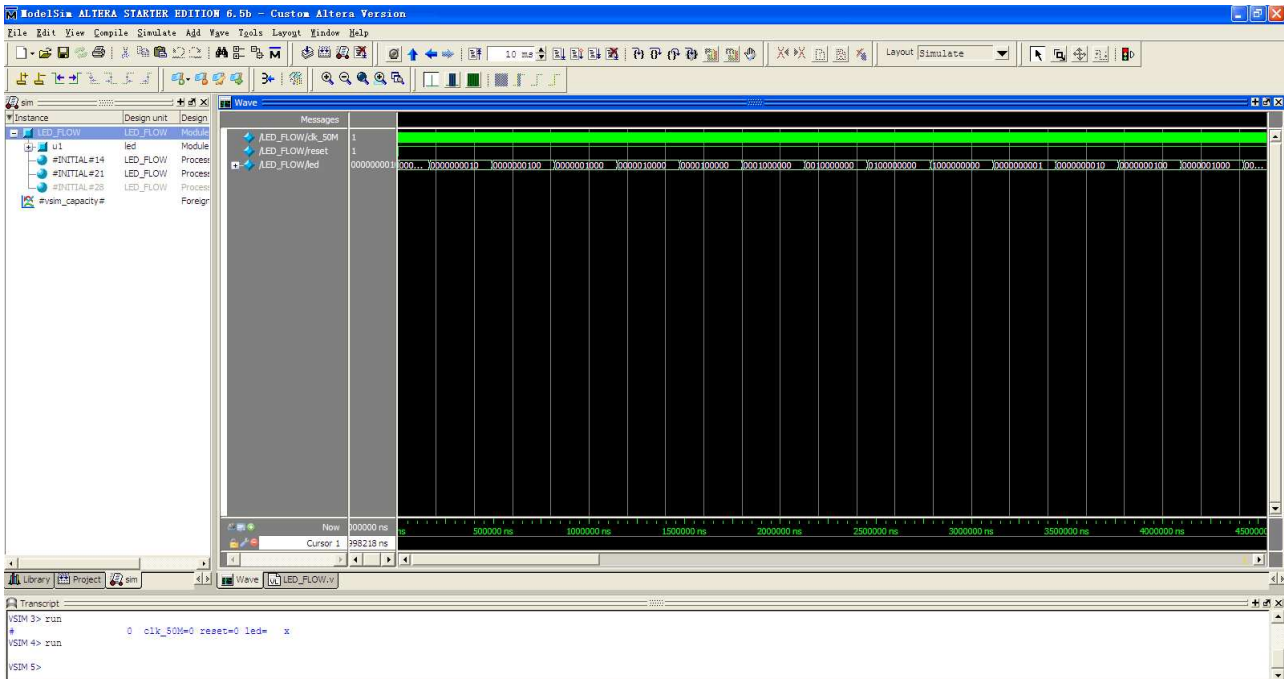

Figure 3.8 Wave window
9. Click **Zoom Out** icon, you can observe the whole simulation wave, shown in Figure 3.8.